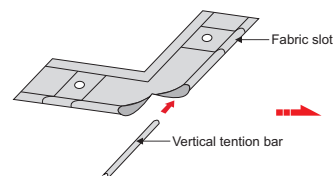

Figure 10
2. Put the tension bars to the four slots of fabric. That is a step suggested to be completed by two persons, one to hold the fabric and another to pull through the tension bars. ( Figure 10 - 12 )